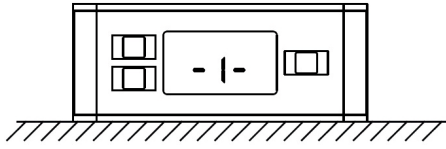
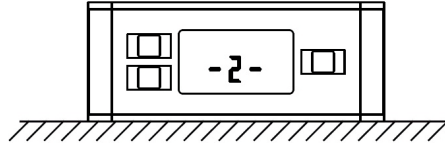

Fig. 7
Fig. 8
- » The display will appear (Fig. 7), press „on/REF/off” briefly, „-1-” flashes, please do not touch the instrument before „-2-” flashes (Fig. 8).